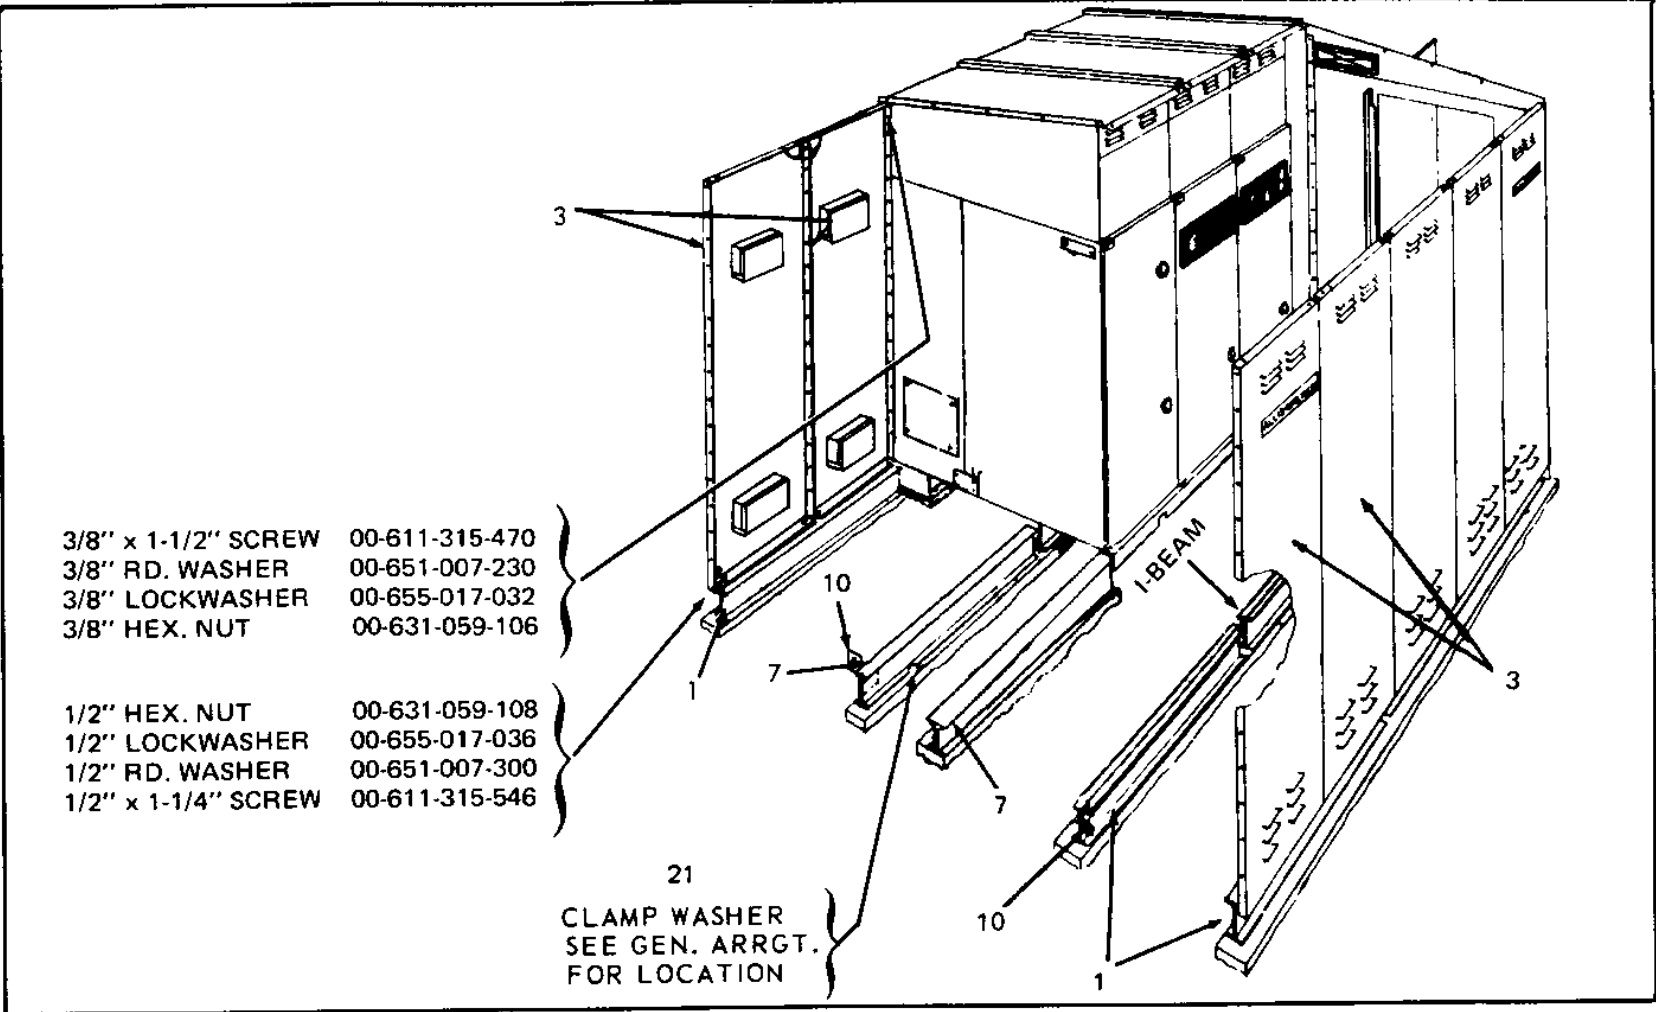

Figure 37. Beam Placement (5KV) – Single Aisle with Work Space
5. See Figure 37. Put the work aisle and work space beams (1, 7 and 11) in position as indicated on the general arrangement drawing.
6. Assemble aisle walls (3). See general arrangement drawing for location of special panels for fans, etc. Apply 1/2-inch sealant tape at the joints of the wall sections.